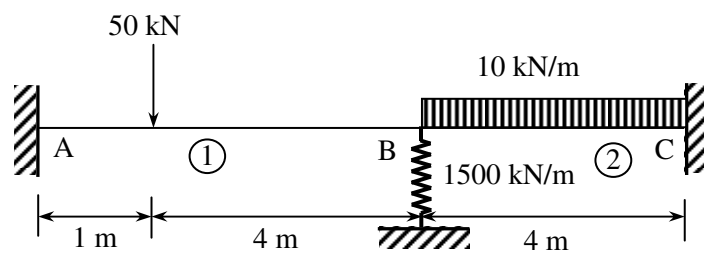

Figure 7
- (b) Obtain load vector for the continuous beam shown in Figure 7, if (i) support A sinks by 5 mm (ii) support C rotates counterclockwise by 0.05 radian and (iii) temperature of BC member is increased so that the top and bottom fibers are at 40 °C and 50 °C, respectively. Assume depth of members as 300 mm and coefficient of thermal expansion as 1.2×10^{-6} per °C. Omit the external loads. **06**
- (b) Obtain the rearranged joint stiffness matrix and load vector for the continuous beam shown in Figure 7. **06**